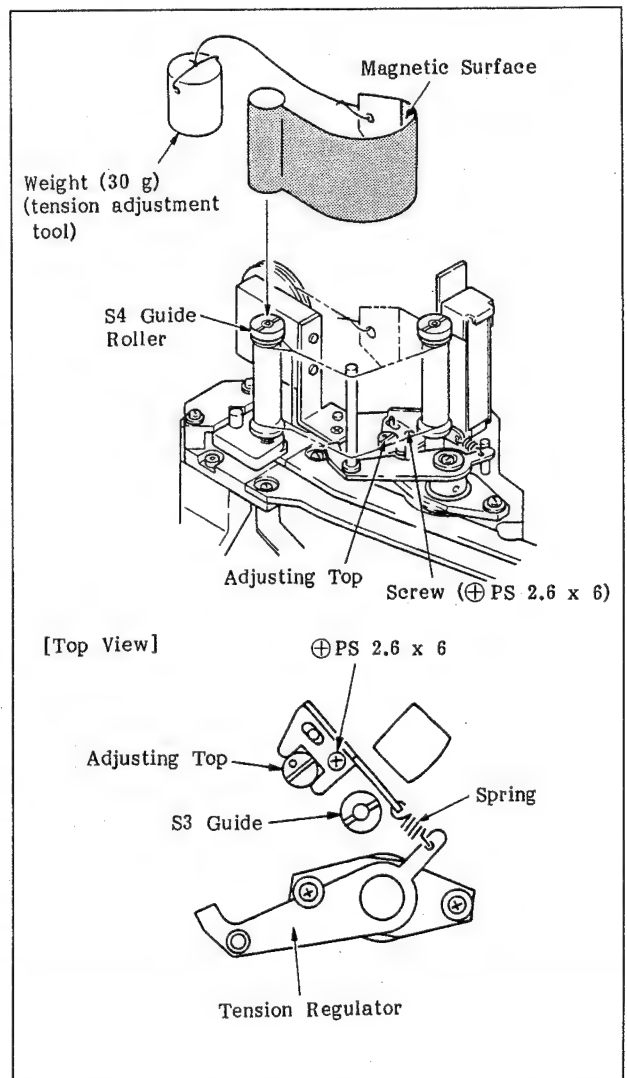

Fig. 9-8 Adjustment of the Tension Using a 30g Weight
24. Place the tension adjustment tool with its 30 g weight on the S4 guide and set the tape portion as shown in Fig. 9-8, then press the string over the roller.
26. Loosen the set screw (+PS 2.6 x 6) shown in the top view of Fig. 9-8 for 1/4 to 1/2 turn, then adjust the output value of the tension regulator by turning the adjusting top so that it becomes the following standard.
31. Check to see that the output value of the tension regulator meets the following standard. If it does not, repeat the procedure from Step 24. If it still does not meet the standard even after readjustment, perform the gain adjustment described below, or replace the spring shown in the top view of Fig. 9-8, then repeat the procedure from Step 24.